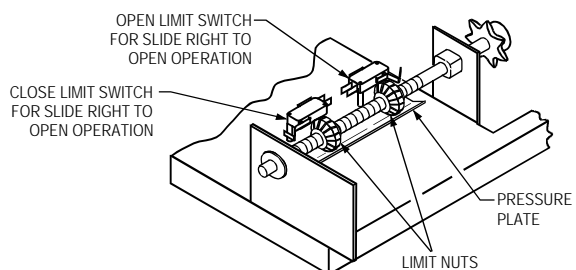

FIGURE 14
- (2.) Depress pressure plate and set grooved limit nuts approximately 1 inch from limit switches on each side (See Fig. 14).
- (7.) **Limit adjustment:** Depress pressure plate and rotate grooved limit nut, on limit shaft, closest to open limit switch (See Fig. 14). To stop gate earlier, move limit nut closer to open limit switch. To stop gate later, back limit nut away from limit switch.